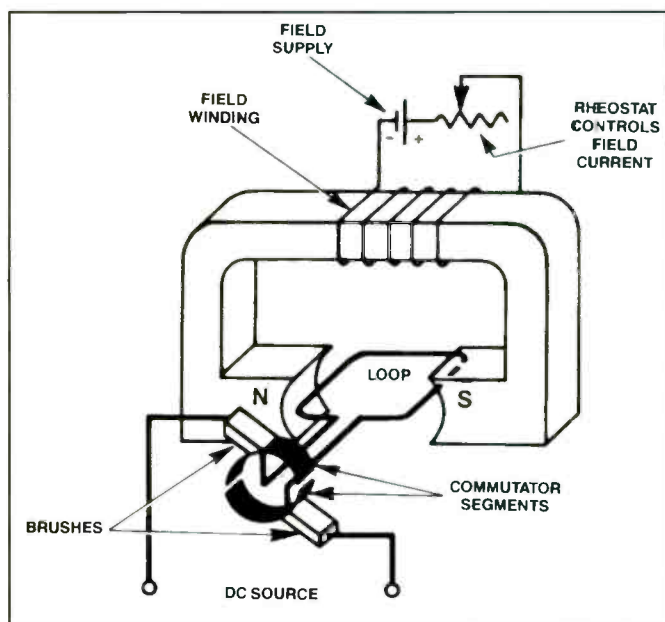

Figure 1. In this simple motor, the armature, called the loop in this drawing, is turning in a magnetic field generated by the field supply.
In the simple motor of Figure 1 the armature (called the loop in the illustration) is turning in a magnetic field. The same is true for the PM motor in Figure 2. A countervoltage is induced in the rotating armature because it is moving in a magnetic field.
Figure 2. This permanent magnet (PM) motor operates on the same principle as the motor in Figure 1, except that the magnetic field is provided by a permanent magnet, rather than an electromagnet.